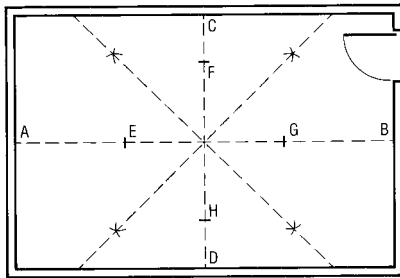

Fig. 16 - Diagonal layout.
- Use a slightly larger arbitrary size and swing an arc on both sides of each line from points E, F, G, H (Fig. 16). Snap diagonal chalk lines at the point where the marks intersect. If done correctly, the chalk lines will intersect at the center point.